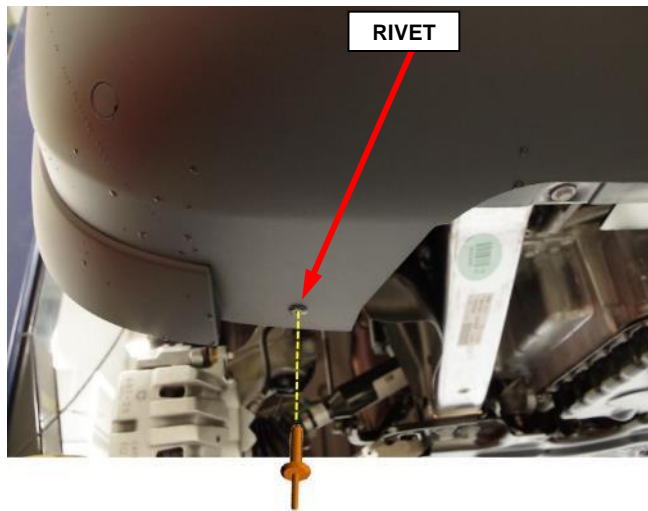

Figure 8 – Front Wheelhouse Rivet
13. **Upland / Trailhawk:** Remove the **single rivet** securing the wheelhouse splash shield to the front fascia on both sides of the vehicle (Figure 8).